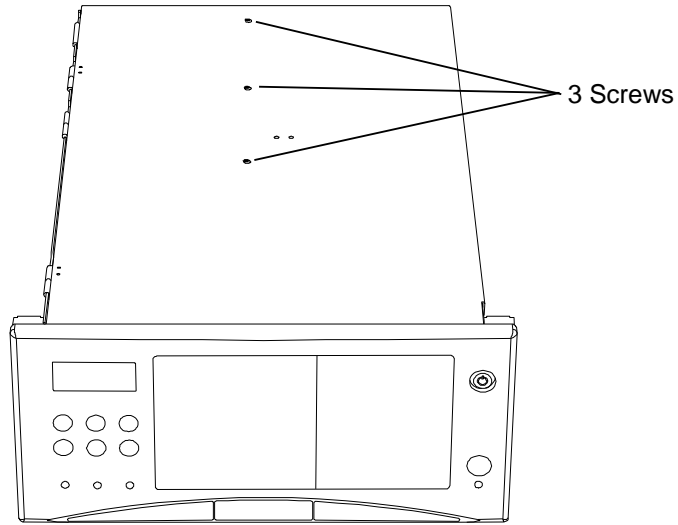

Figure 7-30 Executive Chassis Retaining Screws
3. Using a No. 2 Phillips screwdriver, remove the three screws that retain the Executive Chassis to the Top Cover. See Figure 7-30.
7. Using a No. 2 Phillips screwdriver, install the three flat-head screws that retain the Executive chassis to the Top Cover as shown in Figure 7-30.